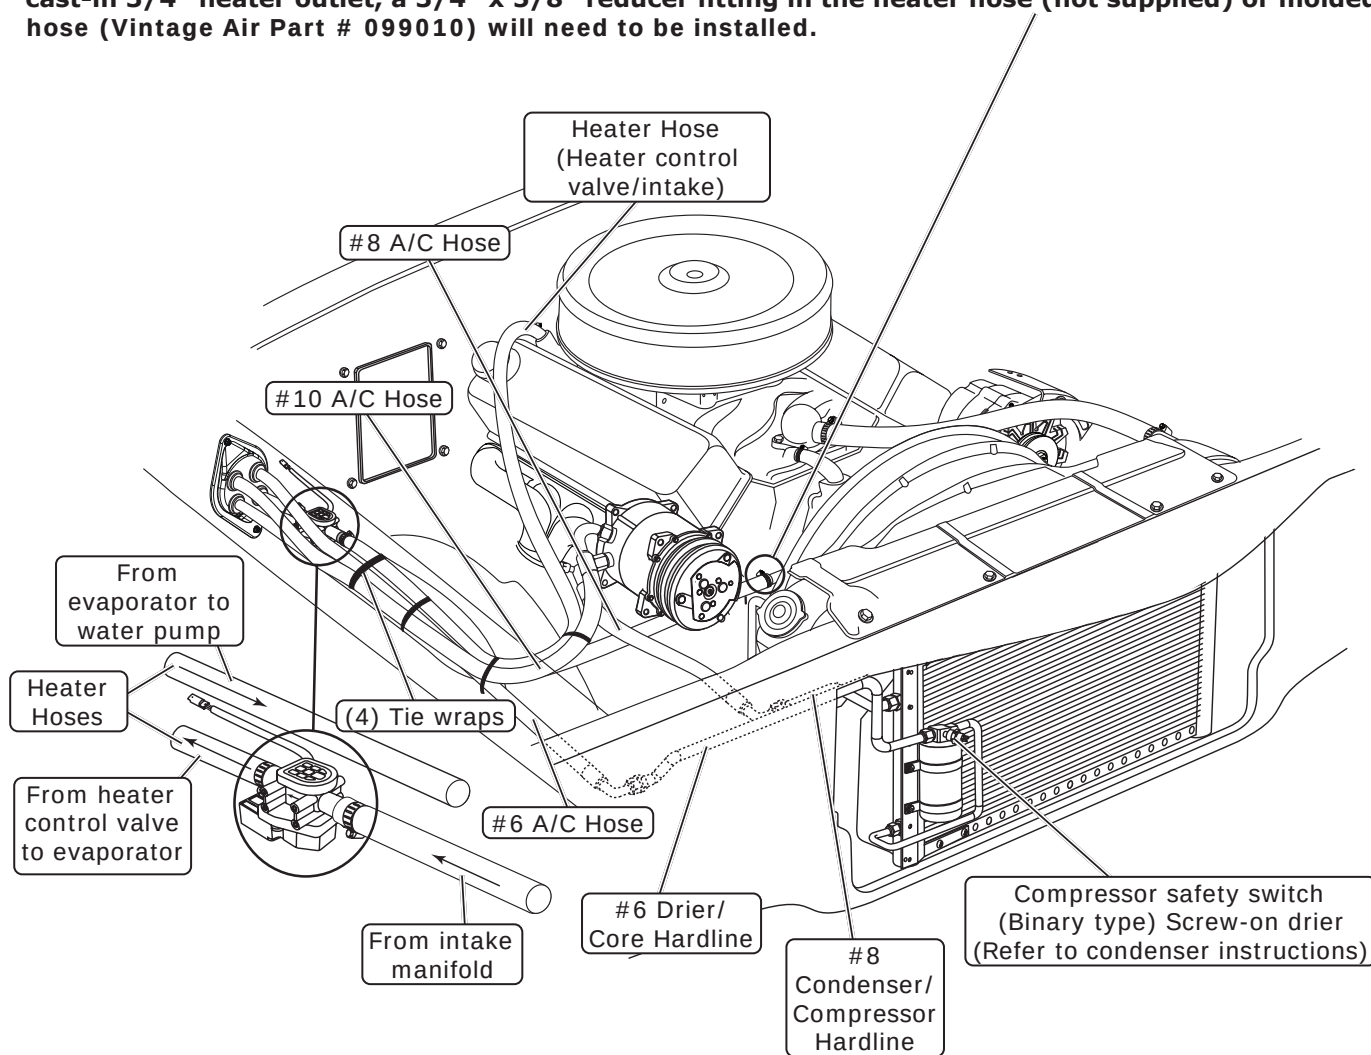

Figure 1
2. Route a piece of heater hose from the intake to the bottom heater fitting of heater core as shown in Figure 1, Page 13, and Figure 1, below. Install heater control valve in line with intake manifold (pressure side) heater hose, and secure it using hose clamps as shown in Figure 1, below. **NOTE: Proper flow direction.**
2. Route the violet power wire to a switched 12v power source on the fuse panel (See Figure 1, below).